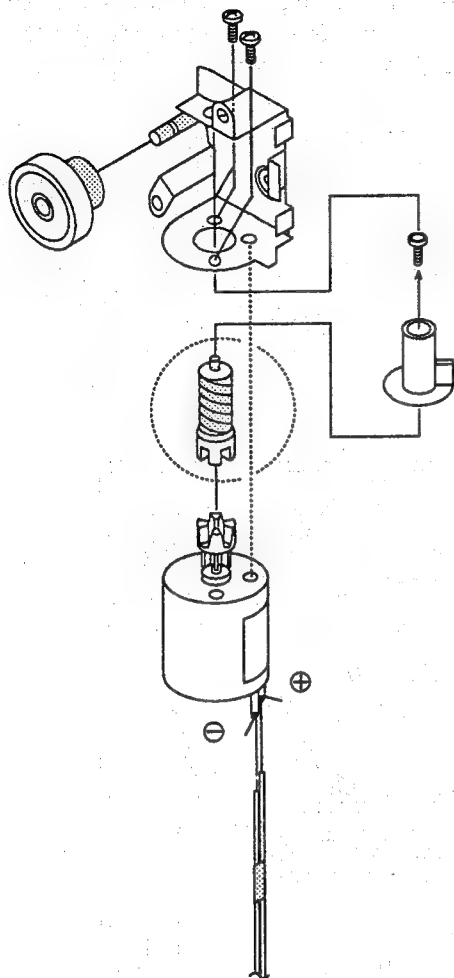

Figure 4-50.
- ① Take out the old loading motor. Place a replacement loading motor as shown above (figure 4-50).